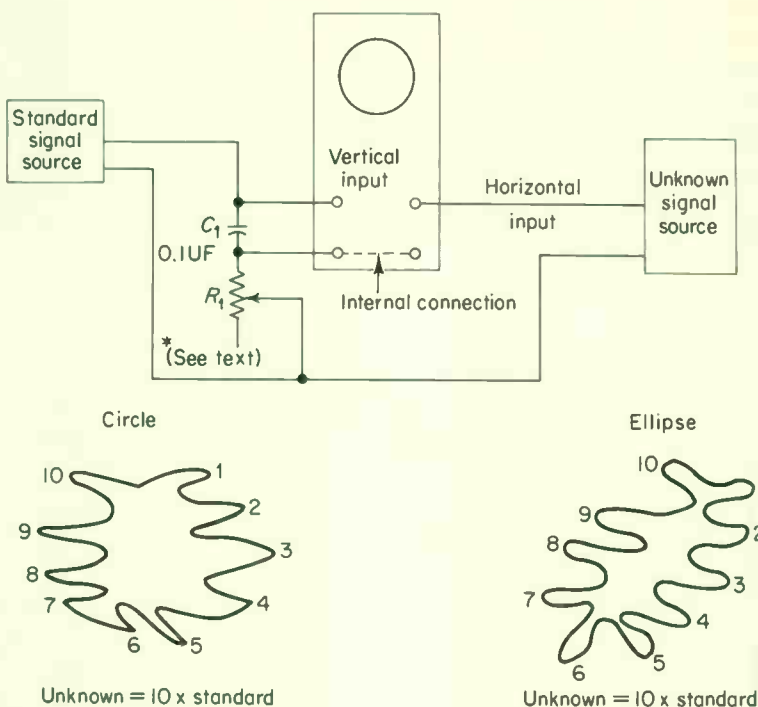

Fig. 7-5. Measuring frequency with modulated ring pattern.
1. Connect the equipment as shown in Fig. 7-5.